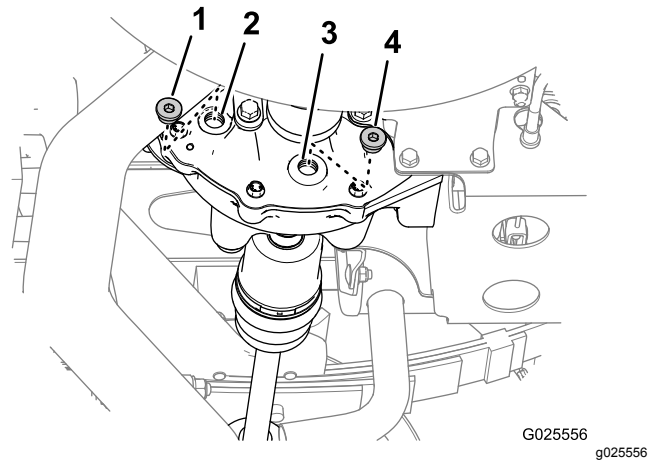

Figure 65
1. Align a drain pan under the drain plug (Figure 65).
2. Remove the fill plug from the fill port and the drain plug from the drain port of the differential (Figure 65).
4. Install the drain plug into the drain port (Figure 65), and tight the plug to 14 to 19 N·m (10 to 14 ft-lb).
5. Add 550 ml (18.6 fl oz) of the specified oil into the fill port of the differential (Figure 65).
6. Install the fill plug into the fill port (Figure 65), and tighten the plug to 14 to 19 N·m (10 to 14 ft-lb).